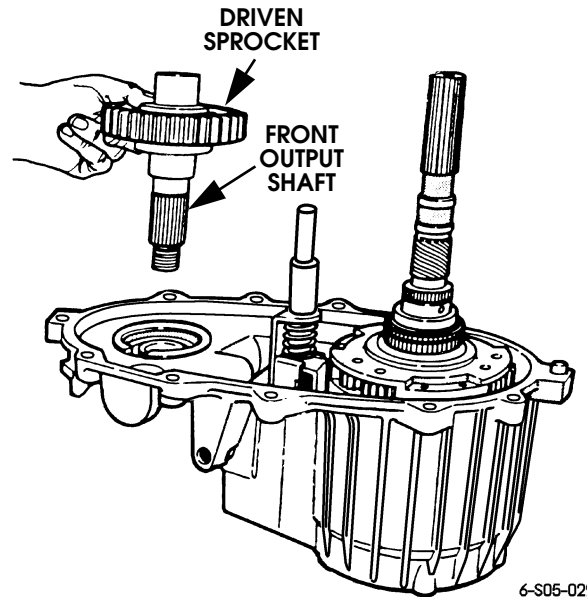

Figure 5-93: Front Shaft and Driven Sprocket Removal
14. Remove front output shaft and driven sprocket as assembly (Figure 5-93).